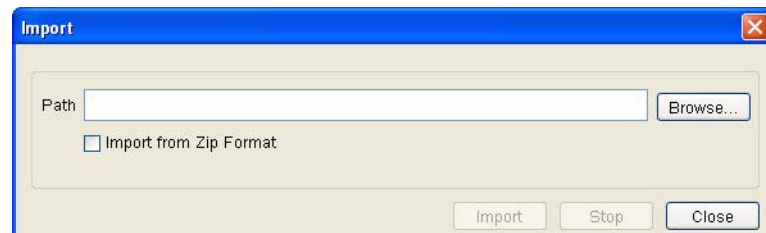

Figure 11-1 Import Dialog
2. While in patient selection mode, click **File > Import > From ATLAS 9000 Series Export Media....** An Import dialog appears (Figure 11-1).